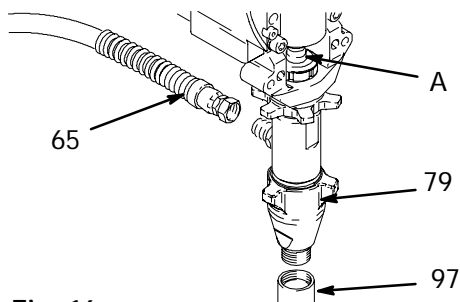

Fig. 16
2. Remove pump (79), Displacement Pump Replacement, page 29, Fig 16.
3. Remove screws (23) and shield (1).
4. Remove four screws (101) and cover (41).
5. Remove nuts (33) and pail hanger (54).
6. Remove screws (19), lockwashers (17), and bearing housing (67).
7. Remove two screws (20) and washers (15).
8. Remove four back screws (10) and lockwashers (15), and pull drive housing (78) off of motor (75).
1. Flush pump (79).
3. Fig. 16. Cycle pump with piston rod (A) in its lowest position.
4. Fig. 16. Remove suction tube (97) and hose (65).